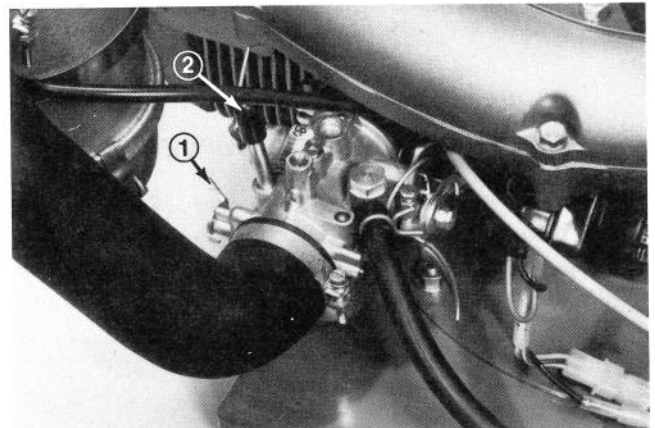

Figure 11
3. Move throttle control forward 1/4 - 1/3. Turn choke lever on carburetor counterclockwise to close choke (Fig. 11). Depress primer 2-5 times.